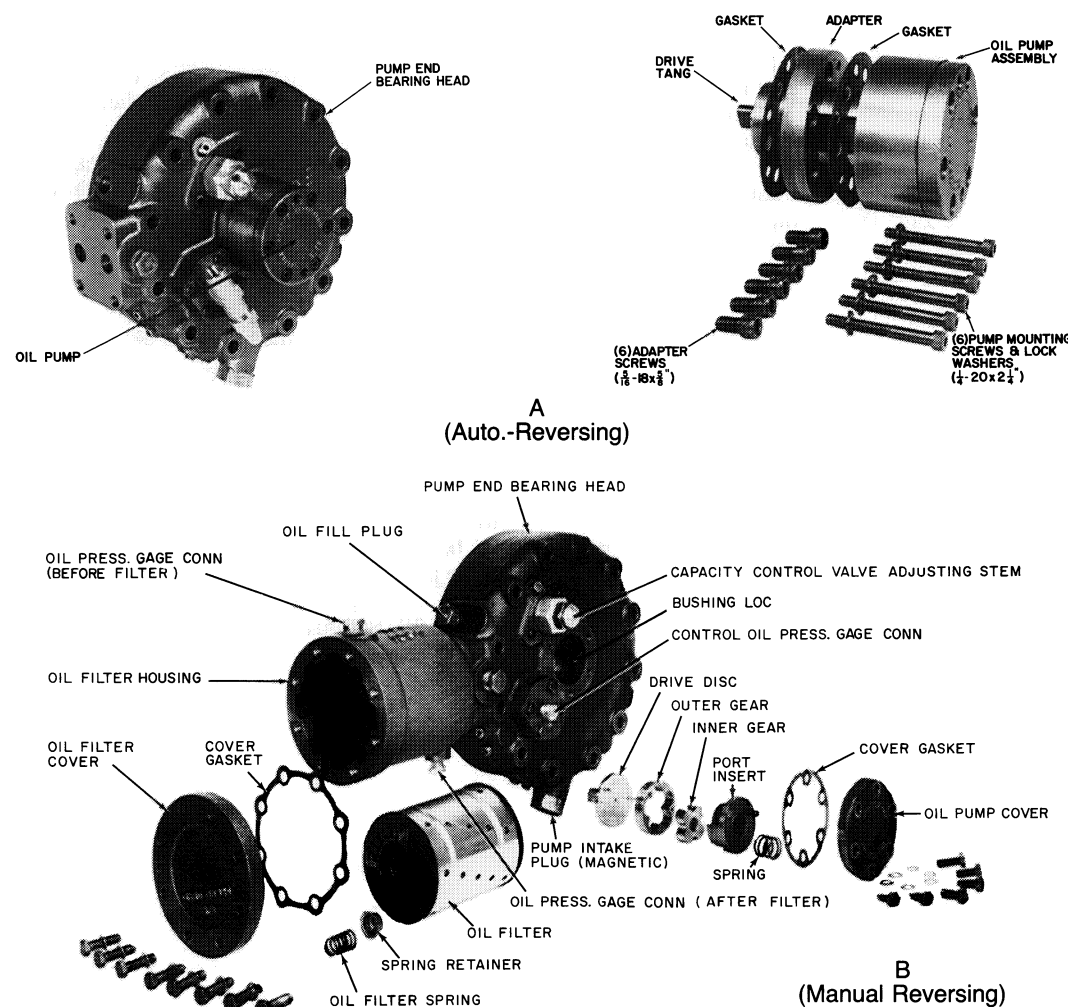

Fig. 20 — Oil Pump and Filter Assembly (5H120, 126)
The full-flow oil filter, on 5H120 and 5H126 compressors only, contains a replaceable cartridge. Replace the filter cartridge after the first 100 hours of compressor operation. After the initial filter change, check yearly for filter clogging. If the pressure difference across the filter exceeds 5 psig, pump down the compressor and then remove the cartridge. Figure 20 (B) illustrates complete filter assembly (not shown in Fig. 20 [A]).